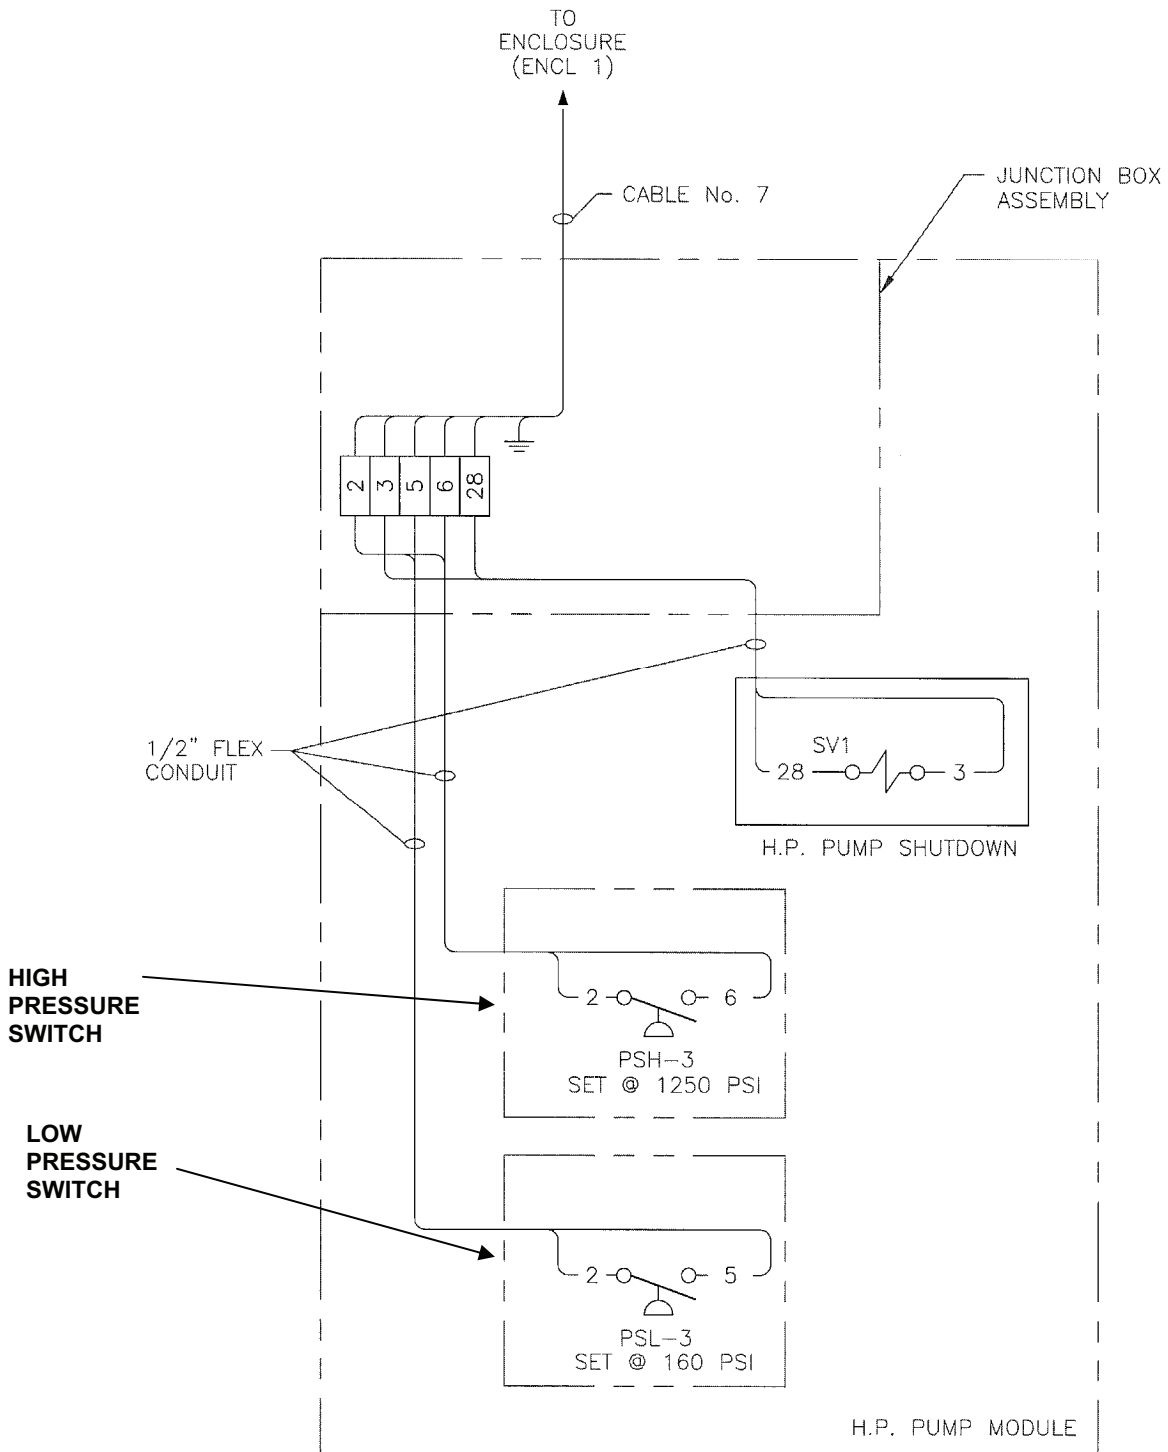

Figure 2. Wiring Diagram.
3. Remove two wires numbers 2 and 5 from terminal block. See Figure 2.
- Connect wires (Figure 2, items 2 and 6) on the terminal block (TB1).
- Secure the conduit (Figure 2, item 8) on the high-pressure switch (Figure 2, item 6) and on the junction box (Figure 2, item 9).
- Install the tubing onto the elbow fitting (Figure 2, item 4).